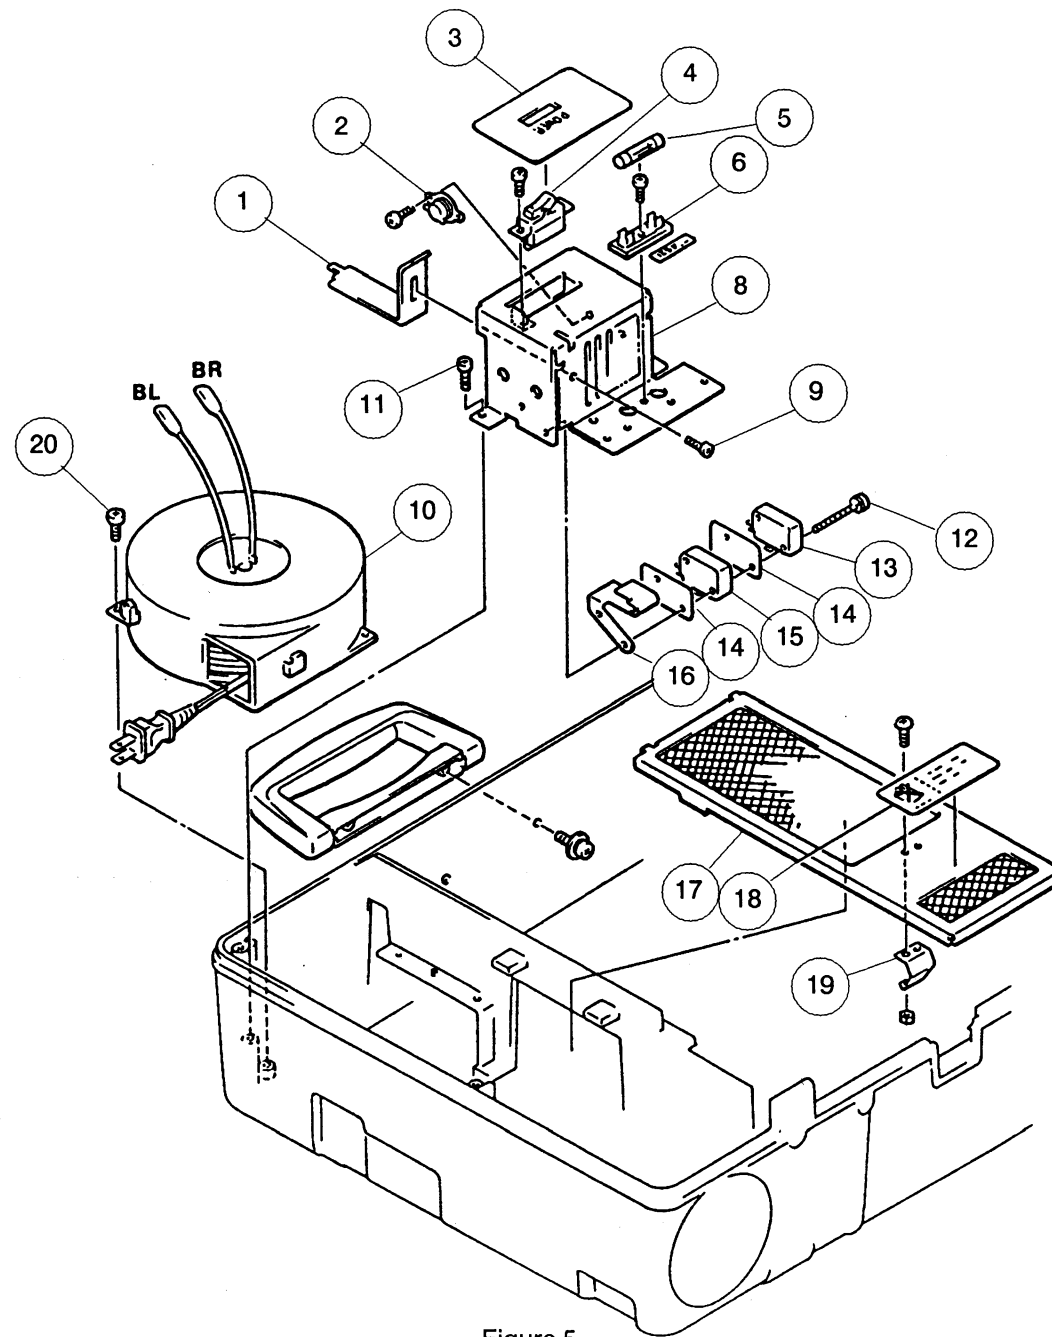

Figure 5
1. Raise the stage frame and remove the lamp protection net (17). (Fig. 5)
3. Remove the three screws (11) that secure the main switch holder (8). (Fig. 5)
6. Remove the two screws (20) that secure the cord reel assembly (10) to the main body. (Fig. 5)
Note: For further disassembly, refer to figure 5.